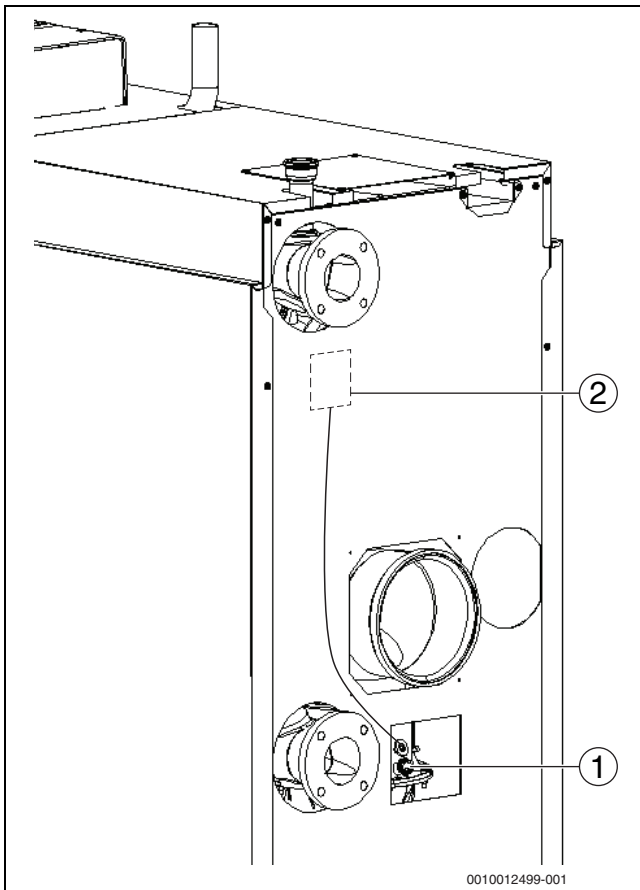

Fig. 30 Recording measurements (boiler rating 150-300 kW)
- Insert the test sensor through the measurement port (→ Fig. 30, page 29) in the flue gas collector into the core stream and check the CO2 value.
- Insert the test sensor through the measurement port (→ Fig. 30, page 29) in the flue pipe into the core stream and check the CO2 value.
- Carry out the following measurements at the test point in the connector (→ Fig. 30 and 31) and enter in the commissioning report (→ Chapter 17.6, page 63):